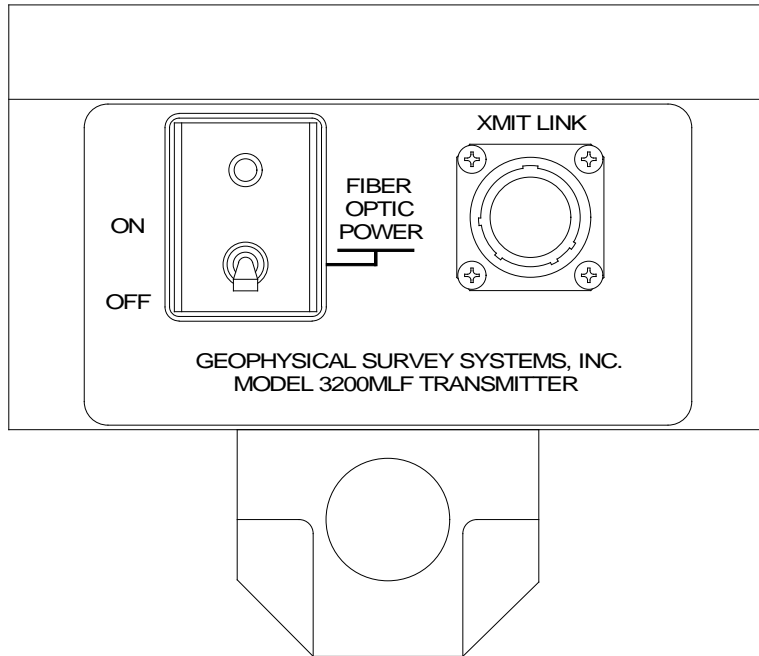

Figure 1: Model 3200 MLF Transmitter.
The model 3200 MLF is composed of separate transmitter and receiver antennas. Please refer to the connector plate diagrams (Figures 1 & 3) below when assembling the antenna units.
- 1** Connect all units and cables (Figures 1 & 2).
- The antenna is supplied with two (2) 12 VDC batteries. One is placed in the transmitter (Figure 1). The other battery is a spare that can be stored in the compartment in the receiver housing.